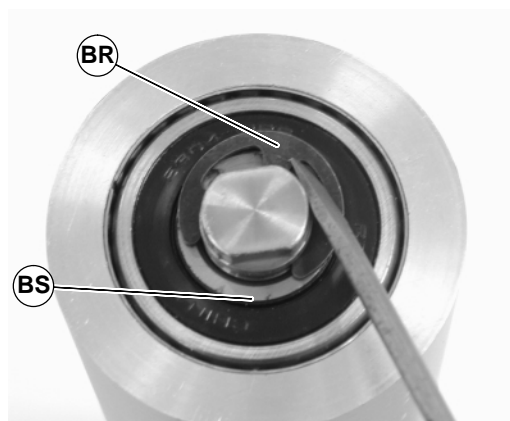

Figure 50
5. Remove the pulley shaft assembly: remove the clip ring (BR of Figure 50) and washer (BS) from one side of the pulley assembly.